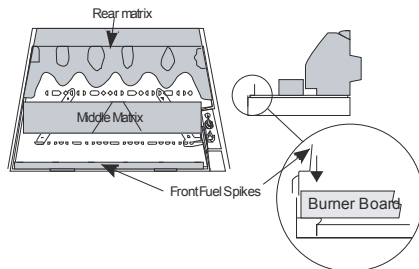

Figure 18
2. Place the **middle matrix** onto the burner board so that it keys into the triangular depression on the board (see **Figure 18**).
3. Insert the front fuel spike between the board and the front of the metal tray (see **Figure 18**).